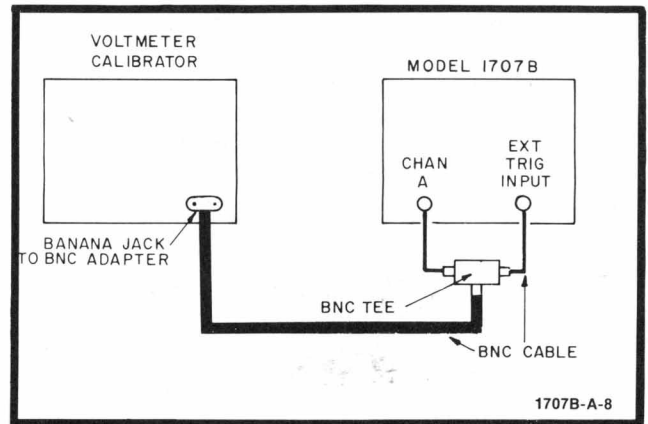

Figure 5-14. Main Trigger Level Range and Polarity Test Setup
- a. Connect instruments as shown in figure 5-14.